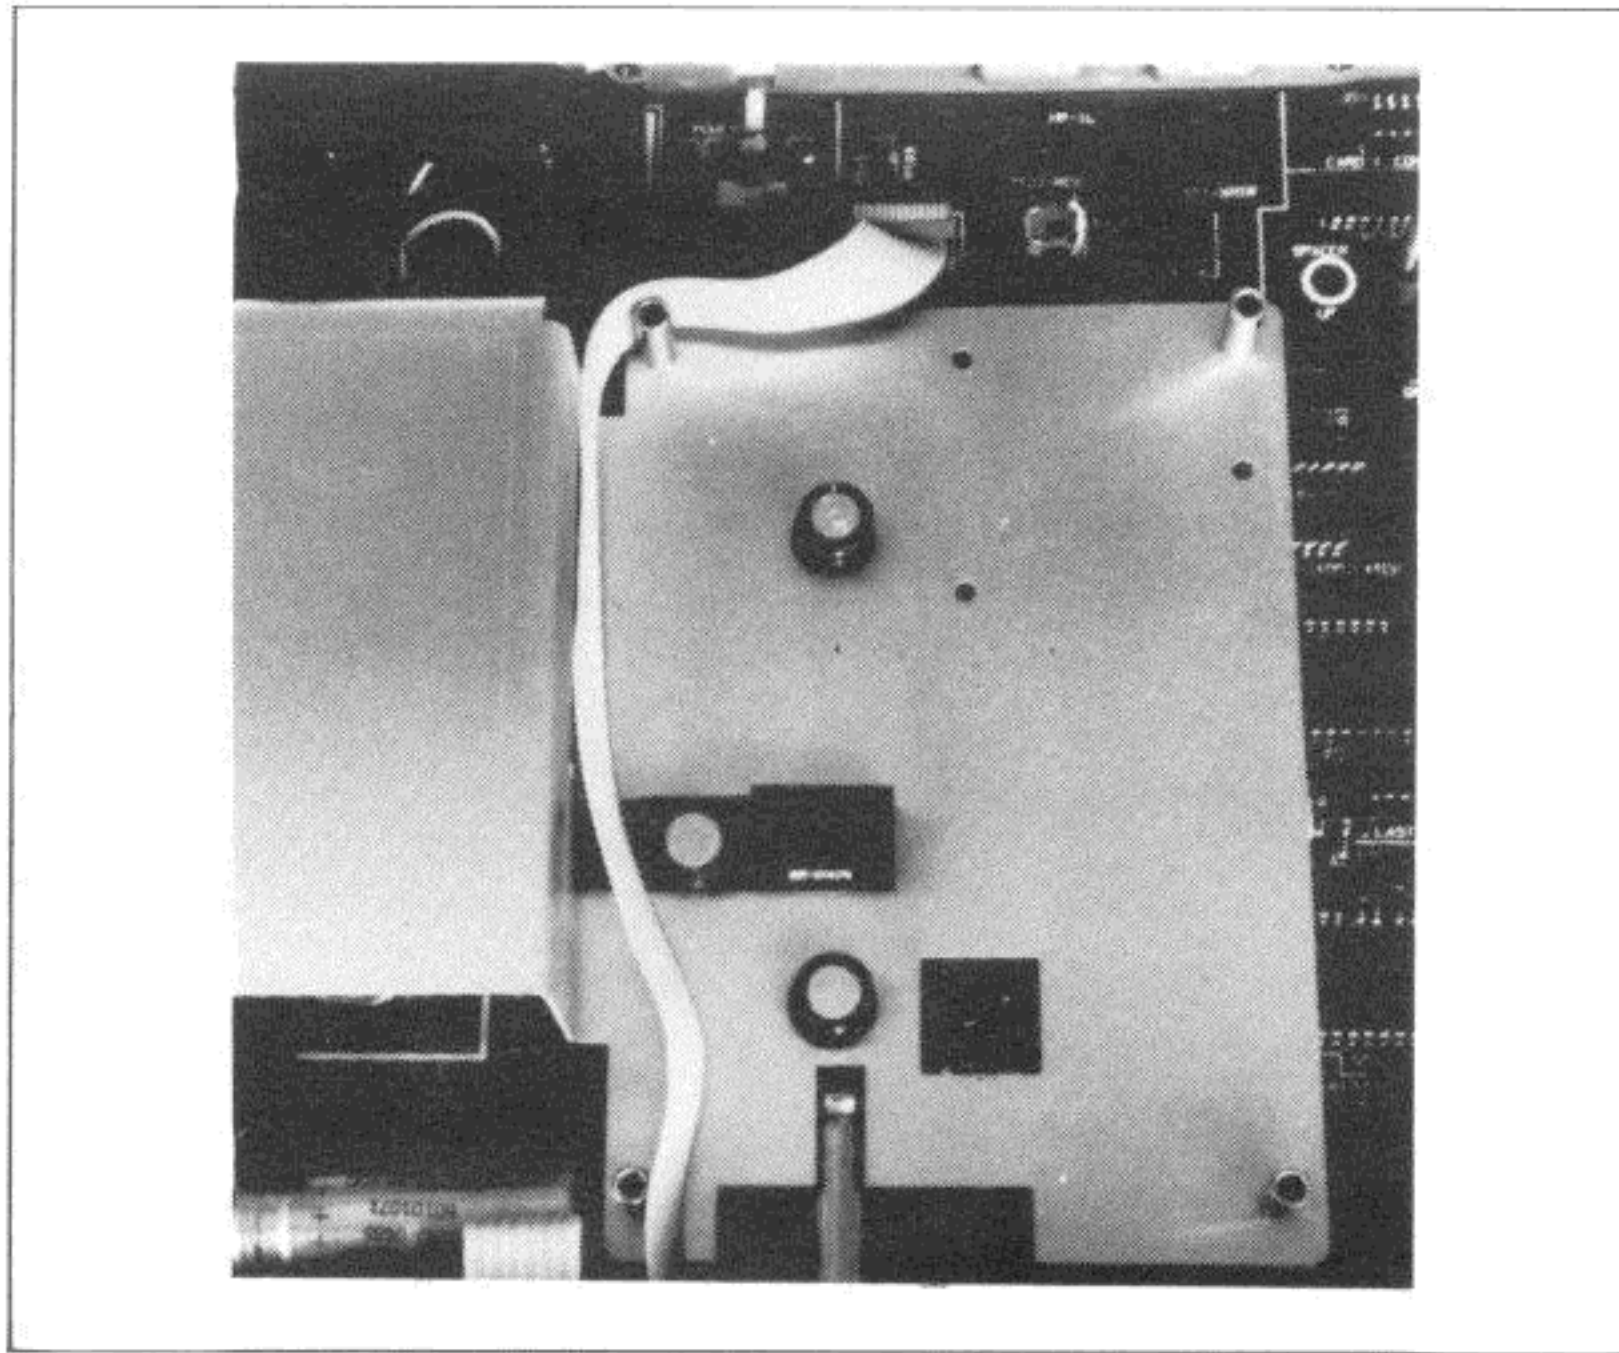

Figure 2-2-6. Slot 2 Option Cable Routing
a. If the HP 3421A has an HP-IB or 12 Vdc Power Adapter Option installed and it was not previously removed, place the slot 2 option on top of either the HP-IB or 12 Vdc Power Adapter Option. If the Model 3421A does not have either an HP-IB or 12 Vdc Power Adapter Option, place the slot 2 option directly on top of the bottom shield's standoffs. First, however, make sure the slot 2 option cable is routed as shown in Figure 2-2-6. The cable's red stripe should be oriented to the the right (pin 7 of the motherboard connector).